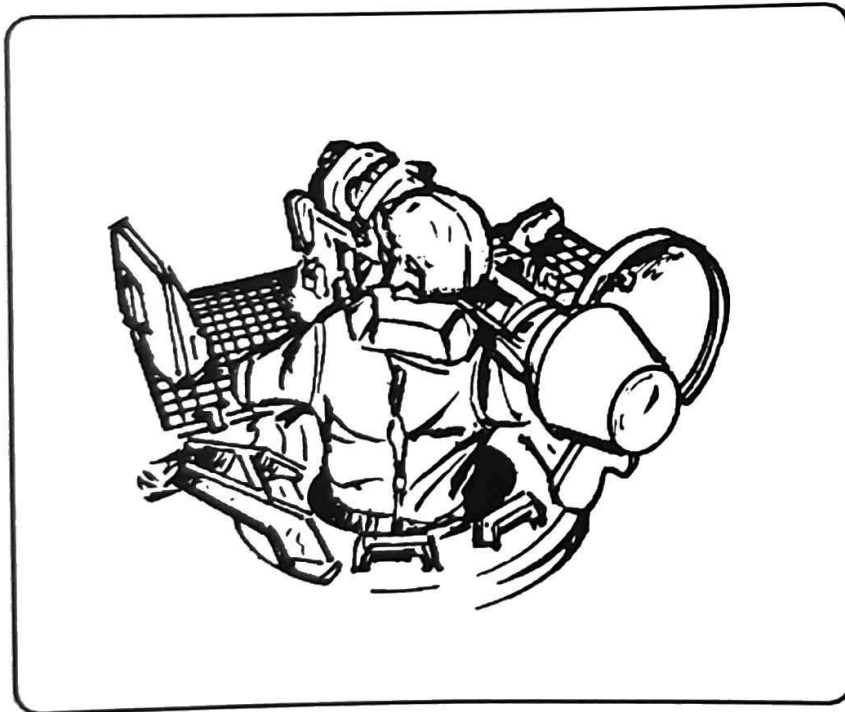

Figure 7-8. M175 firing position on APC.
a. Demonstrate the M175 mount position on the APC, then have the soldiers assume the position (Figure 7-8).